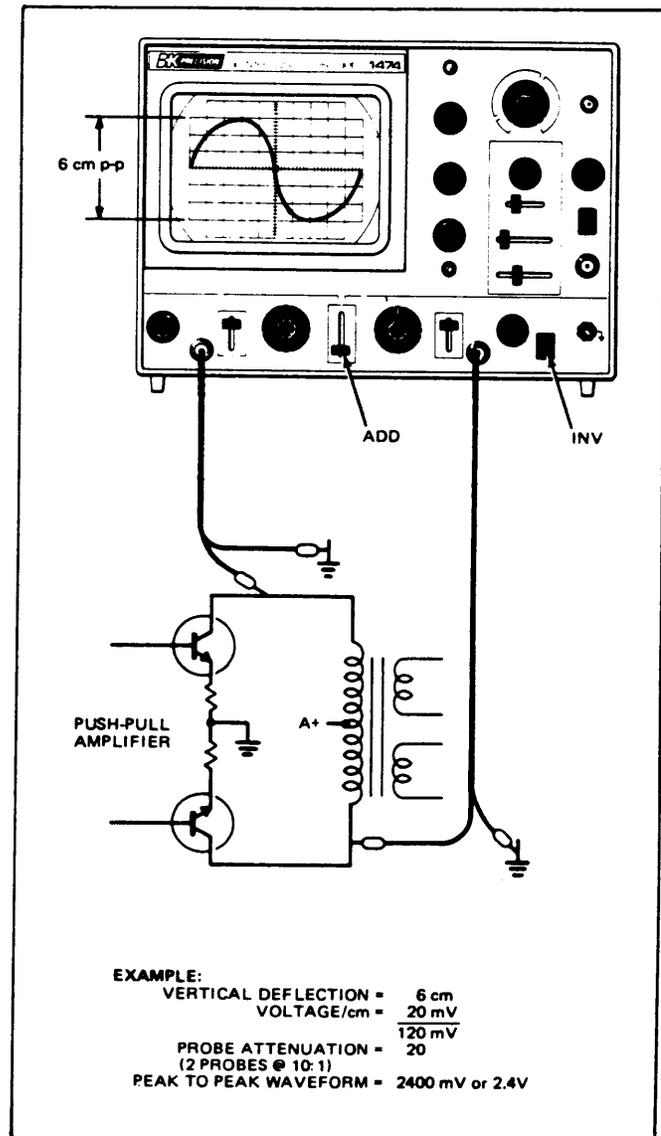

Fig. 5. Typical differential voltage measurement.
DIFFERENTIAL VOLTAGE MEASUREMENT (See Fig. 5)
6. Calculate the time duration as follows: Multiply the horizontal deflection (in cm) by the SWEEP TIME/CM switch (5) setting (see example in Fig. 5). Remember, when the 5X magnification is used, the result must be divided by 5 to obtain the actual time duration.
- a. Set the SOURCE switch (14) to EXT.
- b. Connect a cable from the EXT TRIG jack (13) to the source of sync signal.
- c. Set the SLOPE switch (10) to the (+) or (-) position for the proper polarity for the sync signal.
- d. Readjust the TRIGGERING LEVEL control (9) if necessary for a stable waveform.